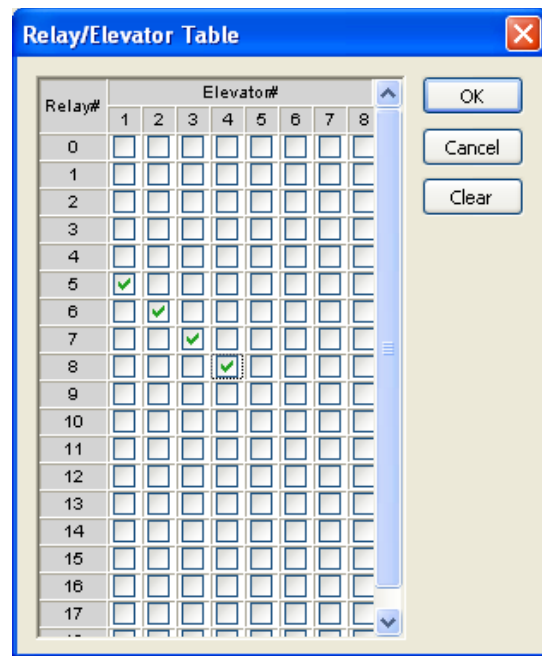

Figure 42
3. Click the box under the elevator number that the corresponding system relay is to control. In this example, elevator 1 is controlled by system relay 5, elevator 2 by relay 6, elevator 3 by relay 7, and elevator 4 by relay 8 (Fig. 42).